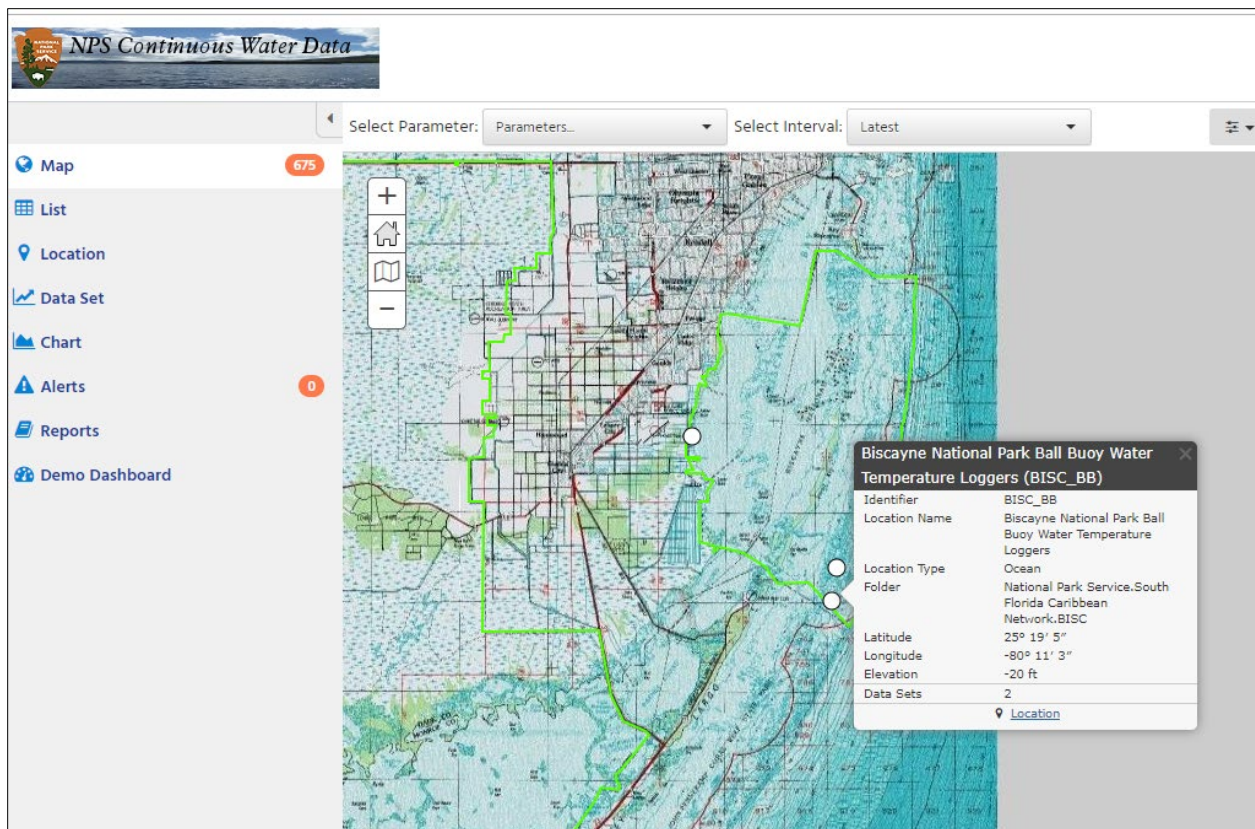

Figure 13. A screenshot showing the Aquarius Web Portal in Map View.
18. Use the map to find the location you want view. Select the site (Figure 13).